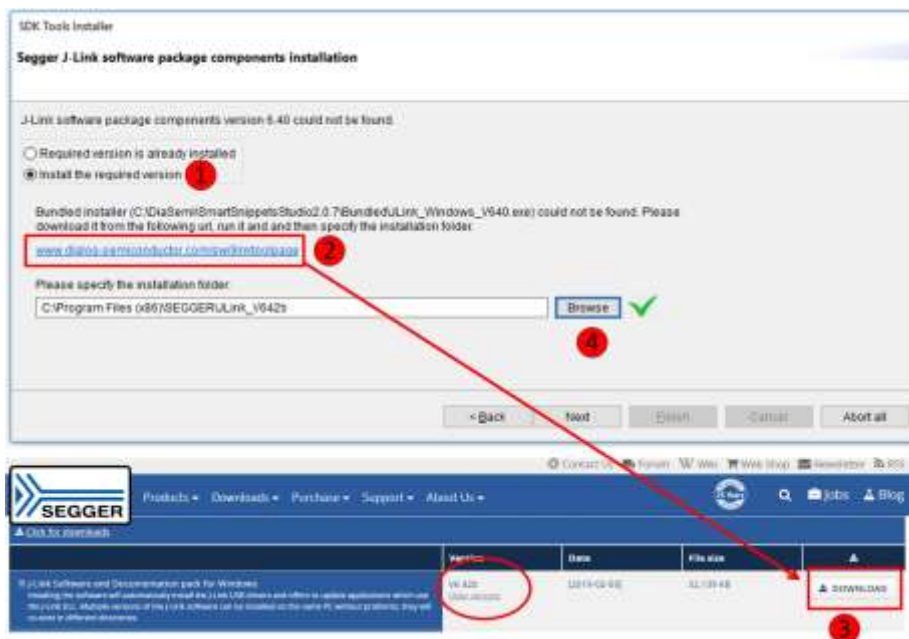

Figure 18: Set SEGGER J-Link Installation Folder
- Then, the installer will guide user to install SEGGER JLink version 6.42b or later. They are available from the SEGGER website Refer to **Figure 18**.